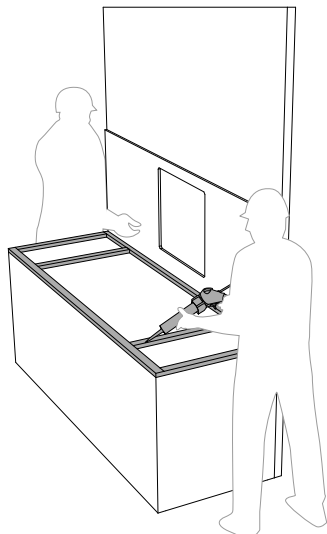

fig. 2
- **6 mm:** the use of a rigid support made of melamine-faced polypropylene (or similar) spanning the entire surface of the countertop is recommended (fig. 2); To accommodate potential expansion differences between the two elements, it is preferable to use an elastic adhesive;
- Distribute the silicone evenly on the support crossbeams for optimal adhesion of the slab (fig. 2);
- Position the countertop vertically, placing it on the outer side of the structure (fig. 2);